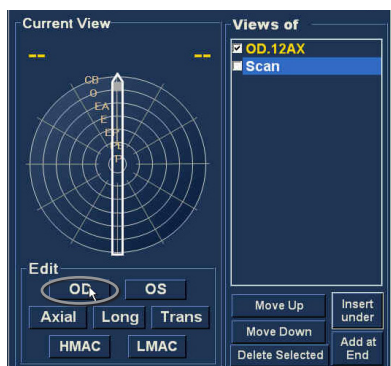

Figure 4.21 - New Sequence Scan (View) Added
2. The newly added sequence scan will display as "Scan" as shown in Figure 4.21. The "Scan" scan is active, is a free scan view and has no definition.
3. To assign a particular eye for scanning to the sequence scan either OD or OS, click on the appropriate eye. In Figure 4.21 OD is being assigned to the active scan.